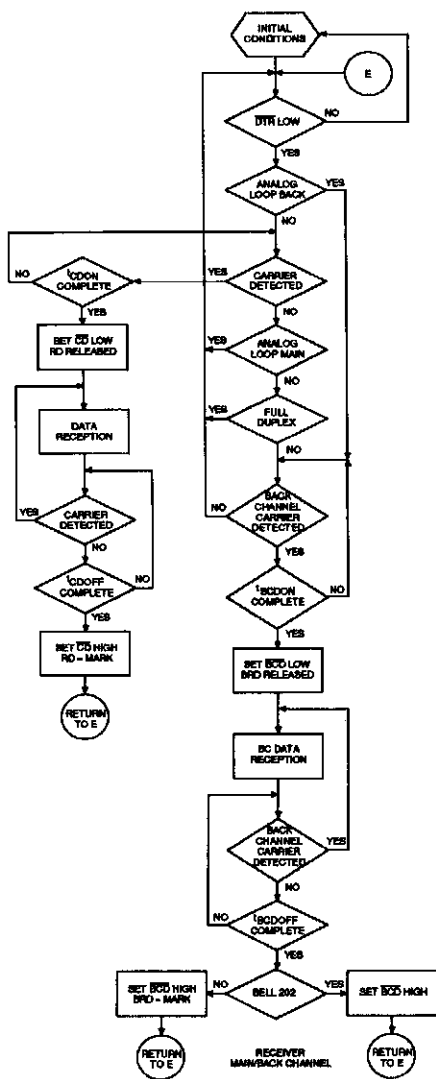

Figure 9. Receiver Main/Back Channel State Diagram
Data reception is controlled by state machine 2 and depicted in Figure 9. At power-on, the machine enters initial conditions and remains there until $\overline{\text{DTR}}$ is set LOW. It then loops until either $\overline{\text{CARRIER DETECT}}$ (CD) = LOW or $\overline{\text{BACK CARRIER DETECT}}$ (BCD) = LOW occurs.